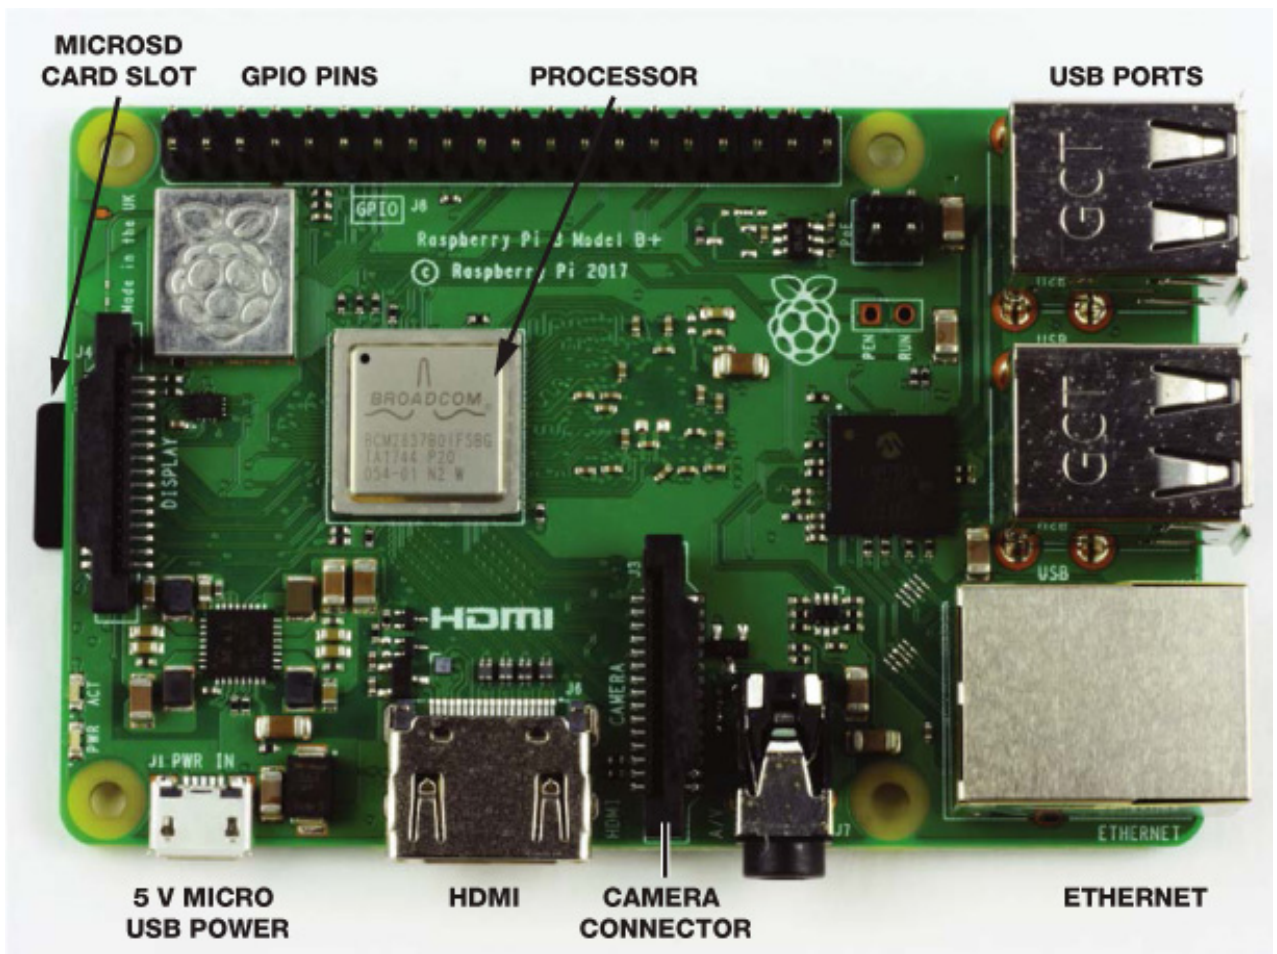

FIGURE 1-3 A top view of the Raspberry Pi 3 Model B+
Unbox it, and you'll find a bare-looking board with all sorts of components sticking out of it. If you have a Pi 3 B+, it should look exactly like Figure 1-3. Later versions might
1. Unbox your Raspberry Pi and plug your microSD card into the slot at the bottom of the board (see Figure 1-3 for a reminder of where this is). Make sure it's pushed all the way in. Some models of Pi (the 1 B+ and 2 B) make a "click" sound when the card is inserted properly, but the later 3 B/B+ does *not*.